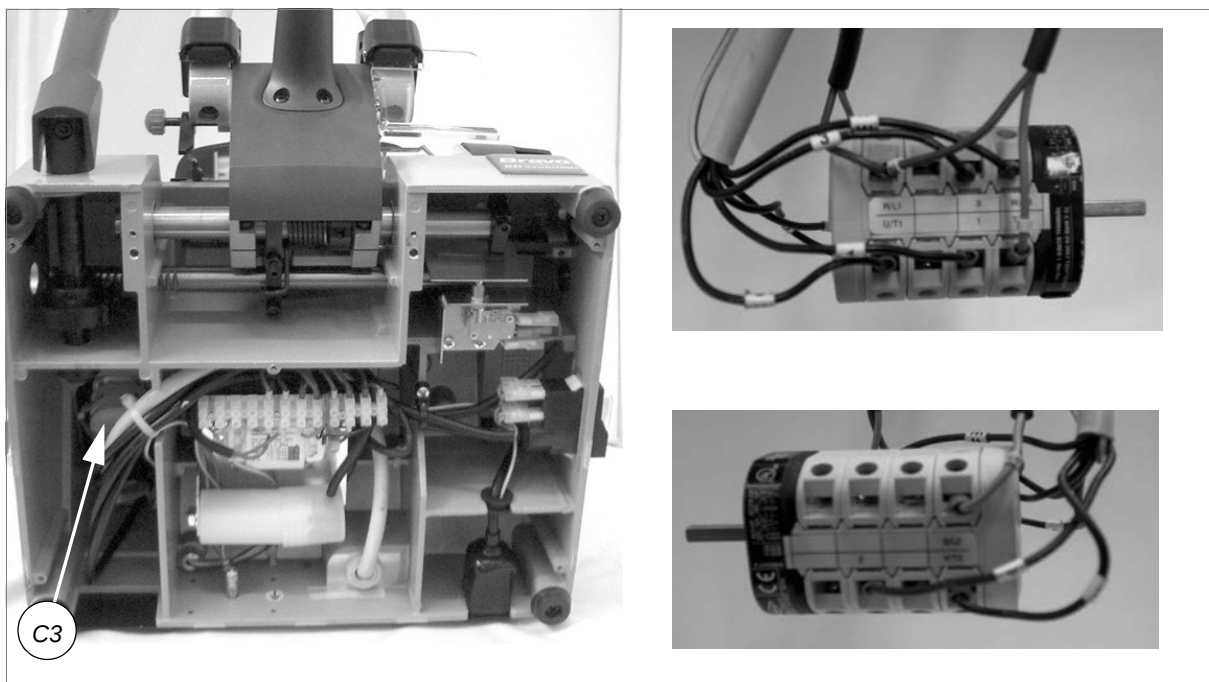

Fig. 39
- 6) Pull the commutator (C3) downwards and disconnect the wires from their connections in order to remove (fig.39). **Pay attention to their position.**
- 9) Pull the commutator downwards (fig. 39, page 28) and disconnect the 6 motor wires from their connections (fig.45).